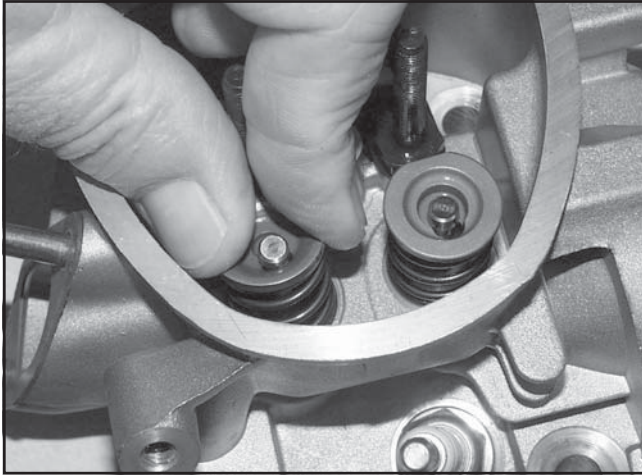

Figure 9-34. Valve Keeper Removal.
1. Supporting the head of the valve from below, depress the valve keeper and valve spring until the keeper can be released from the valve stem. Remove the valve spring and valve from the head. Repeat this procedure for the remaining valve. See Figure 9-34.